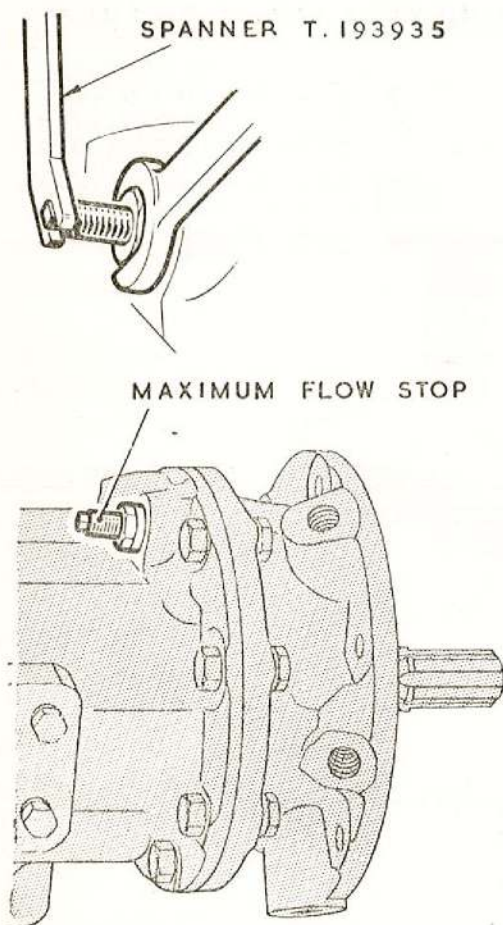

Fig. 11. Removing the maximum flow stop
36. Remove the cap nut from the maximum flow adjusting screw. This screw is slightly inclined into the pump housing and forms a stop for the camplate, thereby limiting the maximum fuel flow. Slacken the maximum flow screw locknut and remove the screw by means of the spanner T.193935 (fig. 11).